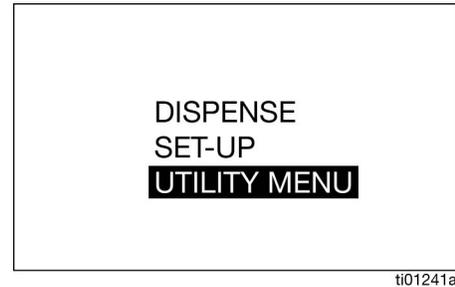

FIG. 18
4. Select the UTILITY MENU option (FIG. 18).